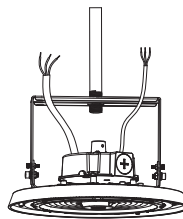

Figure 10
3. Re-screw the nuts. (Figure 10)